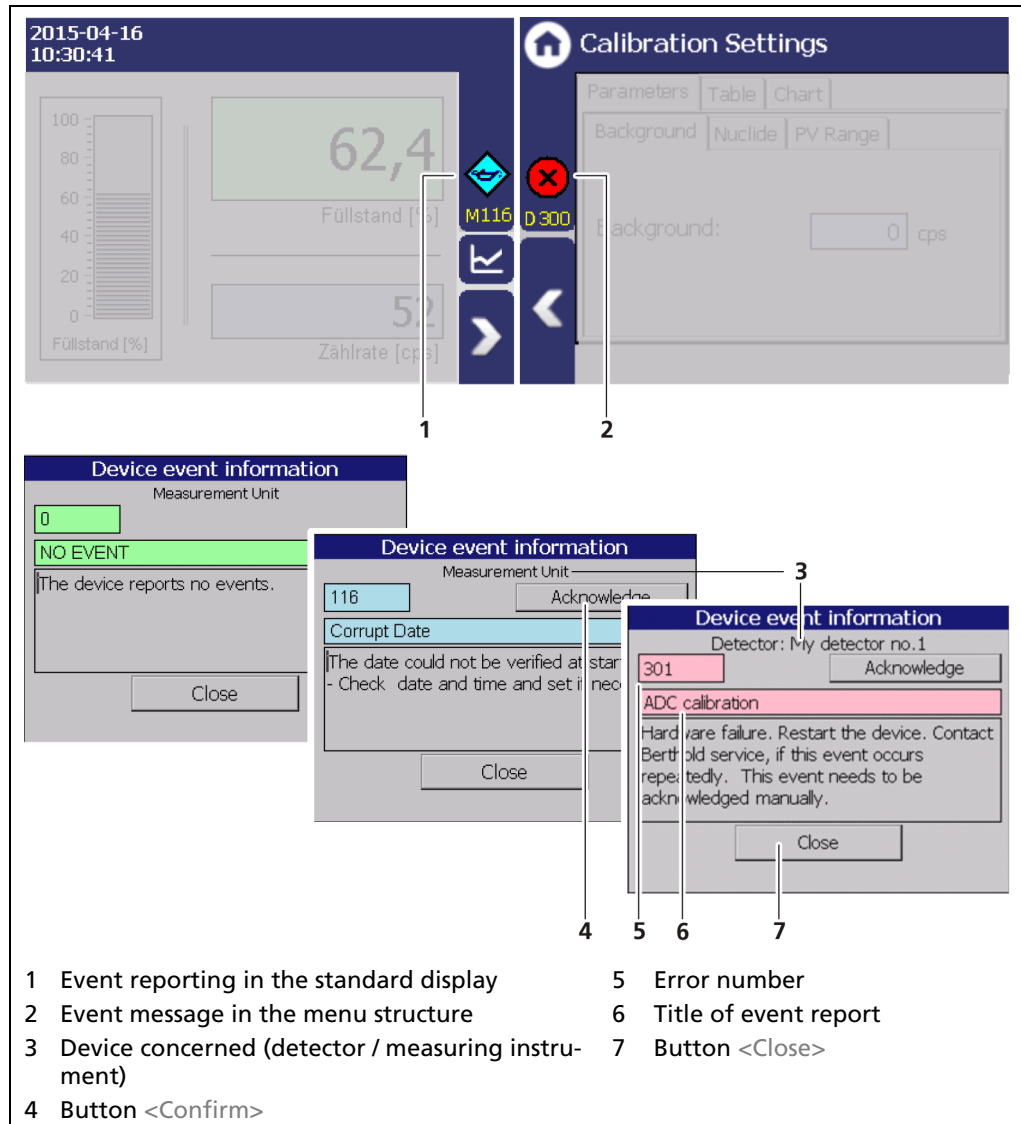

Fig. 29 Event reports (example)
1. Click on the icon (Fig. 29, item 1, item 2) to display detailed information about the event.